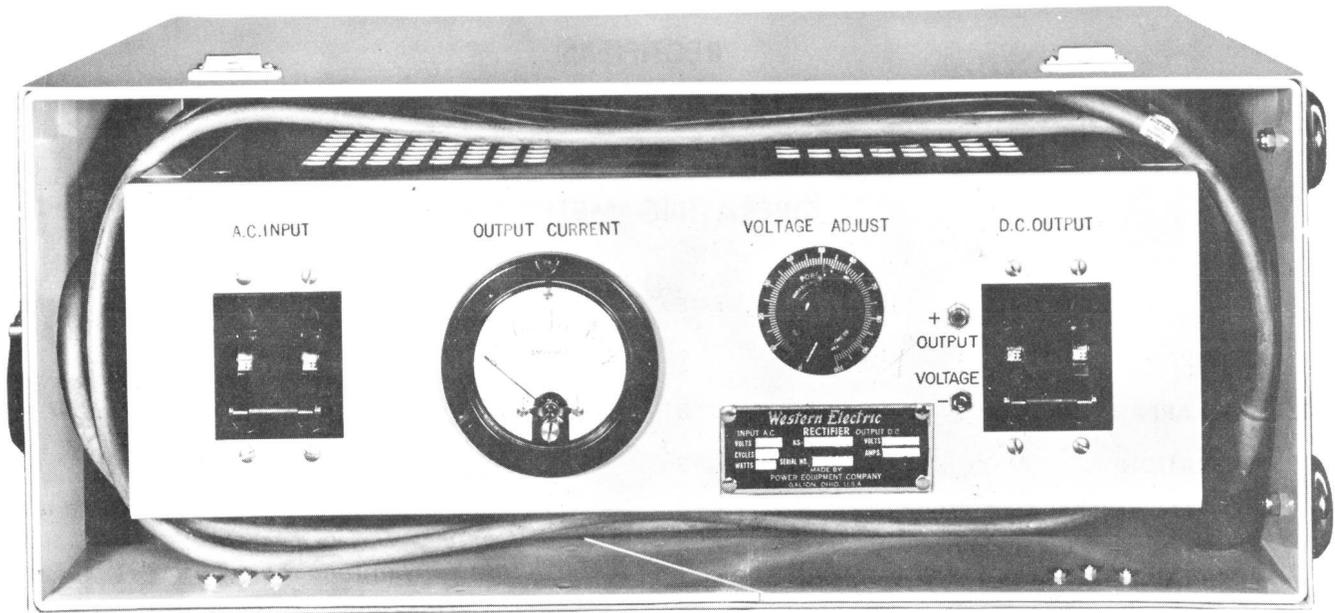

Fig. 1 - KS-15907 L1 Rectifier
1.02 The section is reissued to revise Fig. 1, 2, and 3.